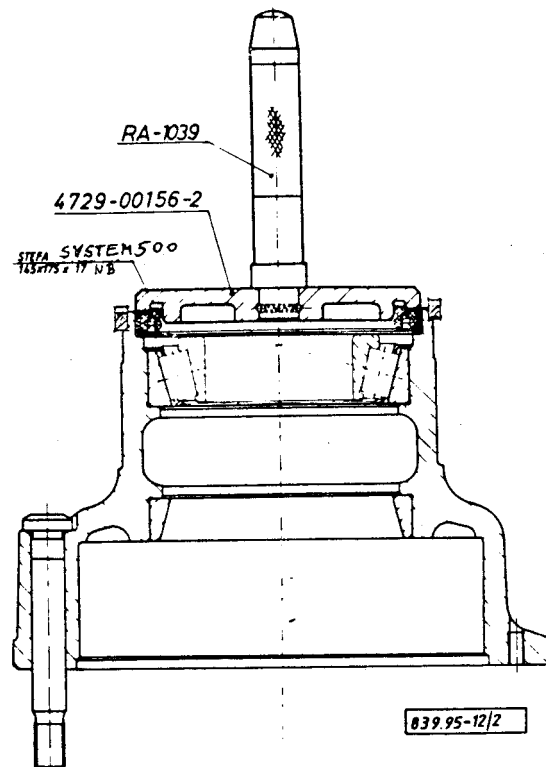

*Fig. 2.: PRESSING IN THE CUPS OF THE TAPER ROLLER BEARINGS*
By means of the tools shown in **Fig. 2**, press the cup of the outer taper roller bearing (34) into the wheel hub. Turn the wheel hub over and by means of the same tools press in the cup of the inner taper roller bearing (32), as well.